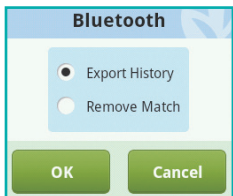

Figure 117
❶ If a device is already paired with the PDA, pressing the device name will open a dialog box (Figure 117) that will allow you to either export history via Bluetooth, or unpair the device.